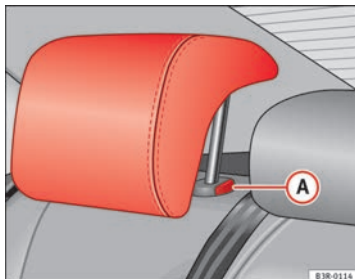

Fig. 111 Outer rear seats: Head restraints
- Press button **(A)** ⇒ Fig. 111 and lower the head restraint.
- Press button **(A)** ⇒ Fig. 111 and pull out the head restraint.